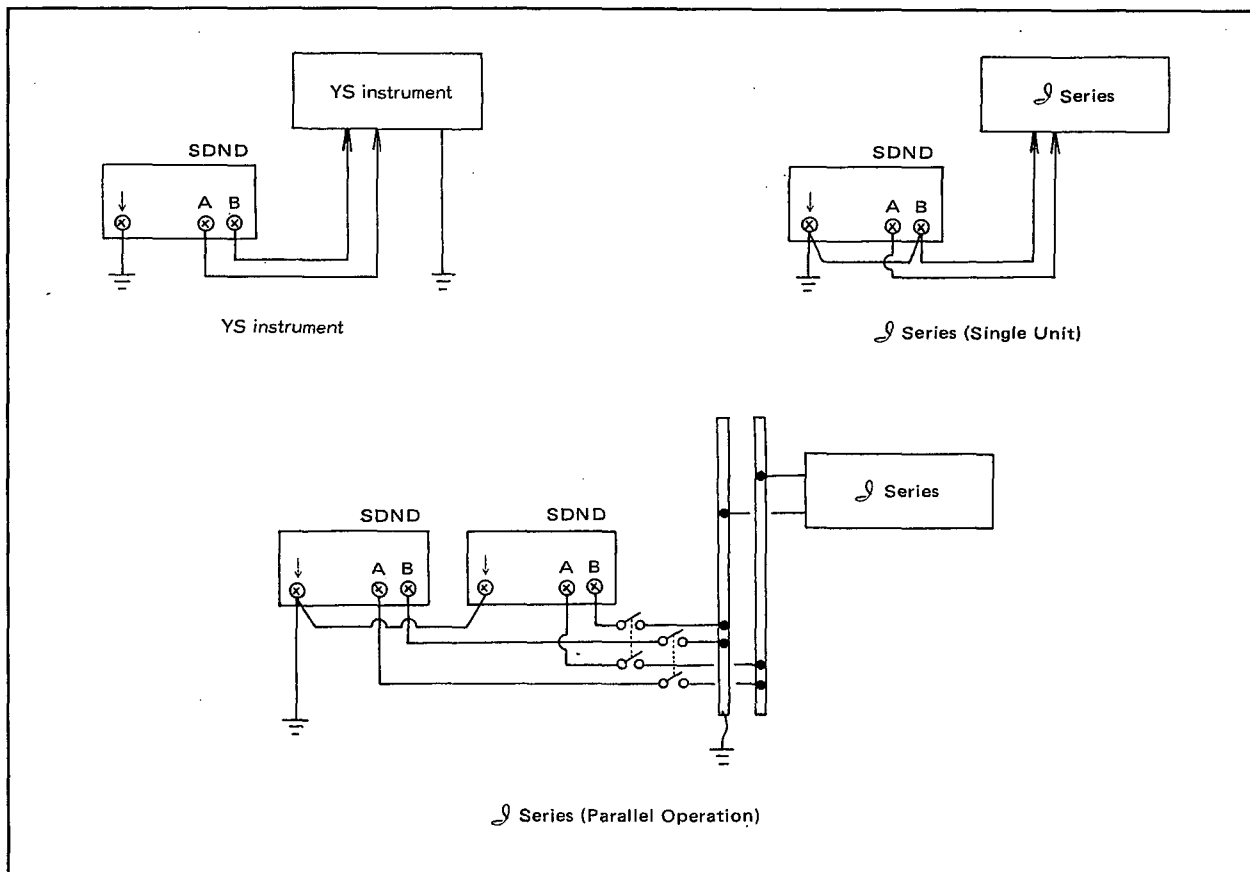

Figure 3-4. Grounding the SDND and Control System.
**(3) Ground Wiring (see Figure 3-4).**